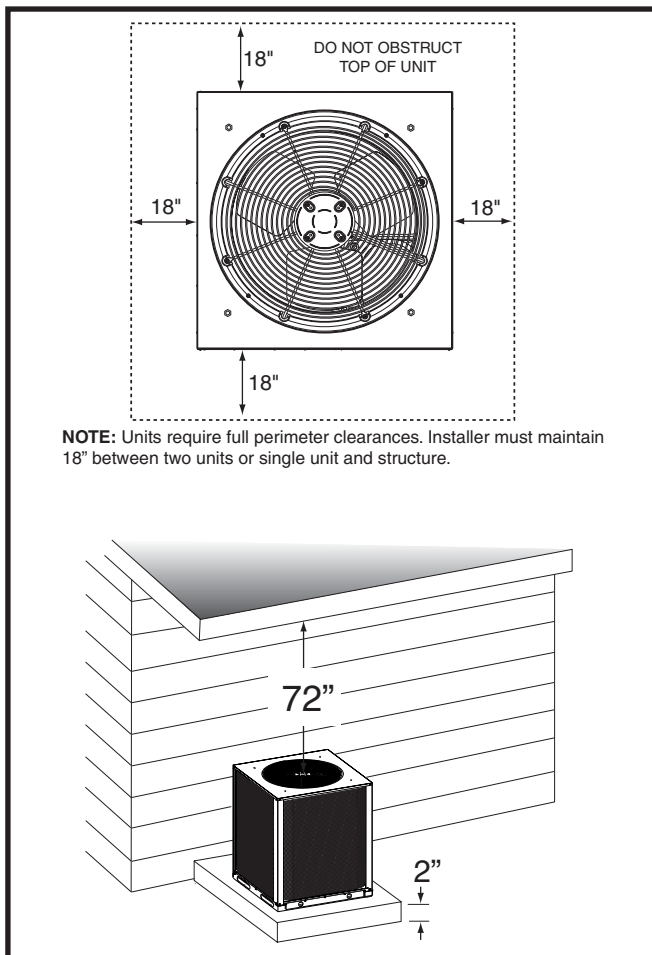

Figure 1. Minimum Clearance Requirements
- Overhead obstructions (Figure 1), poorly ventilated areas, and areas subject to accumulation of debris should be avoided.
- Sufficient clearance for unobstructed airflow through the outdoor coil must be maintained in order to achieve rated performance. See Figure 1 for minimum clearances to obstructions.
- Clearances must be in accordance with those shown in Figure 1 (page 4).
- A suitable mounting pad must be provided and be separate from the building foundation. The pad must be level and strong enough to support the unit's weight. The slab height must be a minimum of 2" (5 cm) above grade and with adequate drainage. See Figure 1.